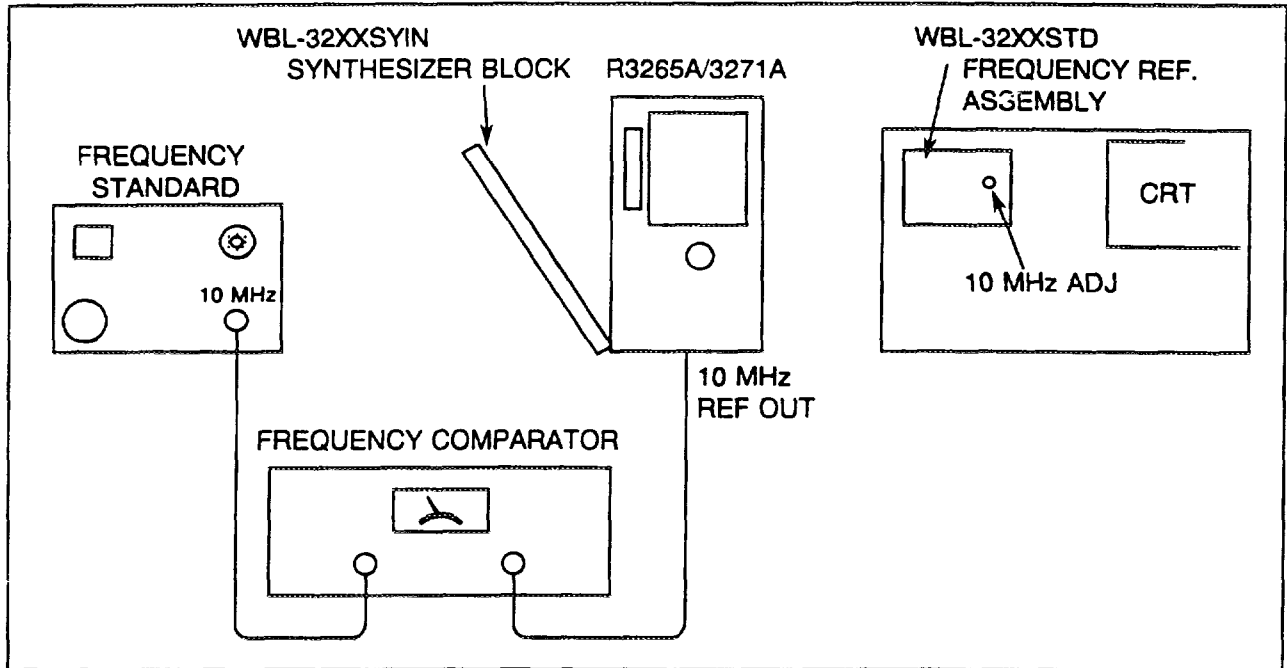

Figure 5-15 10 MHz Reference Crystal Oscillator Adjustment
- (7) Connect the equipment as shown in Figure 5-15.
- (8) Adjust the 10MHz ADJ control of the WBL-32xxSTD unit so that the indicator of frequency comparator reaches within $\pm 1 \times 10^{-8}$.